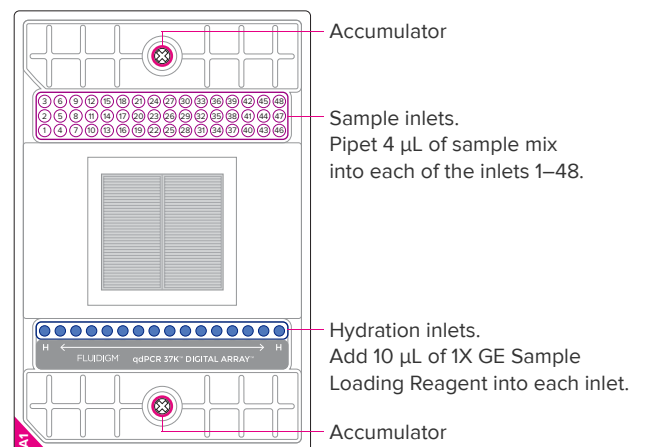

Figure 1. qdPCR 37K IFC pipetting map
- 1 Inject control line fluid into each accumulator on the IFC (Figure 1). Use the entire contents of the syringe.
- 2 Pipet 10 µL of 1X GE Sample Loading Reagent into each hydration inlet (Figure 1).
- 3 Pipet 4 µL sample mix into each sample inlet (Figure 1).